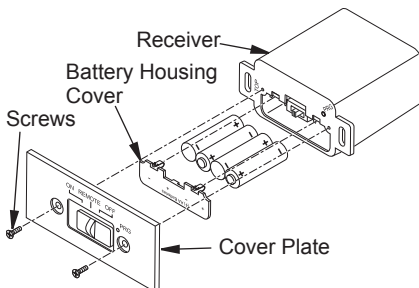

Figure 15 - Battery Install Remote Control Receiver
3. Attach cover plate to receiver with 2 screws as shown in Figure 15.